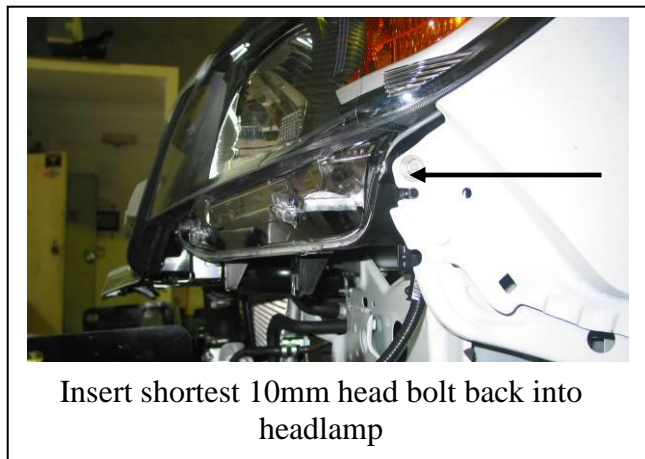

Figure 1 – Remove bumper support from under lights.
3. Remove plastic bumper supports from under headlights, four 10mm head screws, and bottom of guard, one 8mm head screw. Unclip side and rear clips. Replace the shortest of the 10mm head bolts back into headlight mount. **See figure 1.**